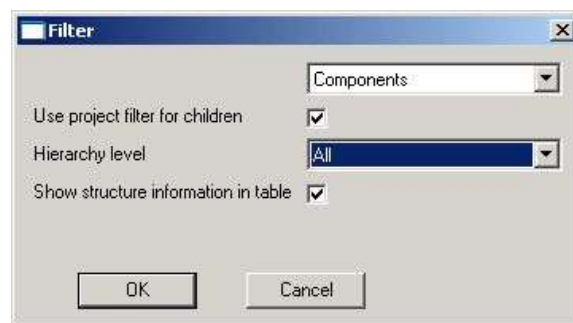

Figure 310: Filter Dialog
- 9) The selected attributes are displayed with hierarchy levels in the table, and you can edit the values in the table. *Please refer to the Figure 310.*
- 1) In order to open the **Change attributes simultaneously** dialog, click **Replace**. *Please refer to the Figure 310.*